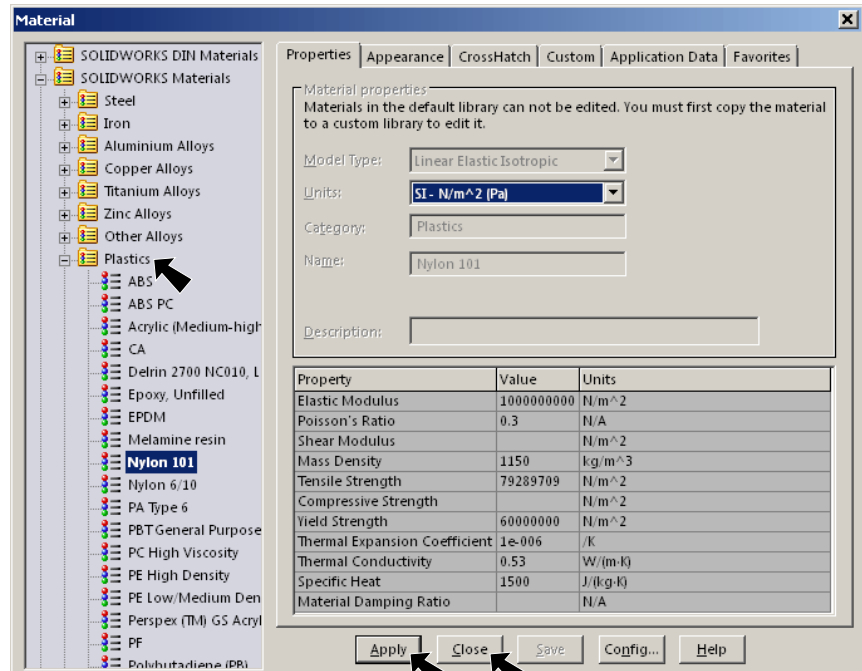

Fig. 9
Step 2. **Expand Plastics** in the material tree and select **Nylon 101**, **Fig. 9**. Click **Apply** and **Close**.